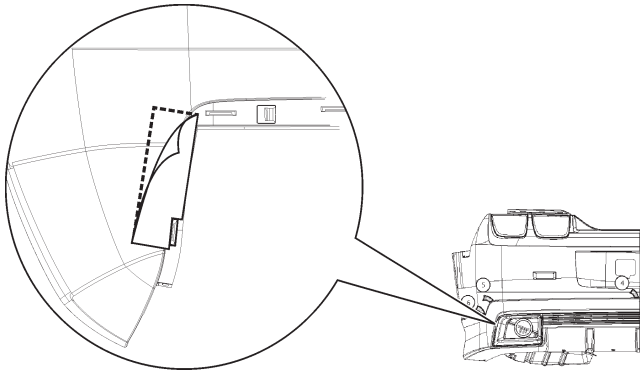

FIGURE 10
15. Clean the area, remove the backing, position the step in the strip alongside the retaining clip opening and apply the strip following the vehicle fascia contour. Refer to figure 10.